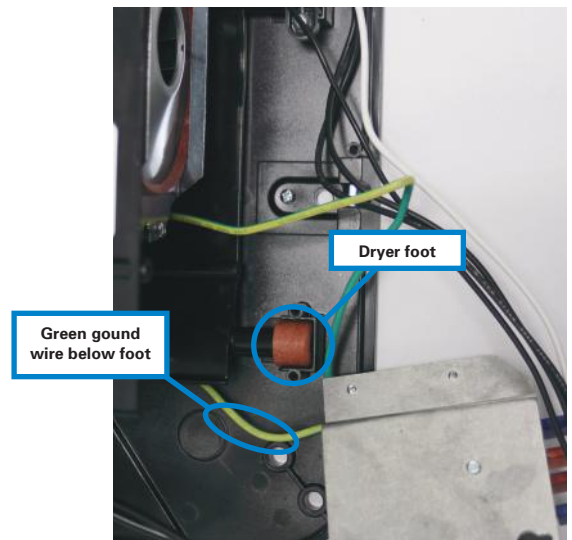

Figure 9
6. With the retainer removed, pull the corner of the dryer away from the baseplate enough to pull the green ground wire underneath and below the dryer foot. See **Figure 9**.